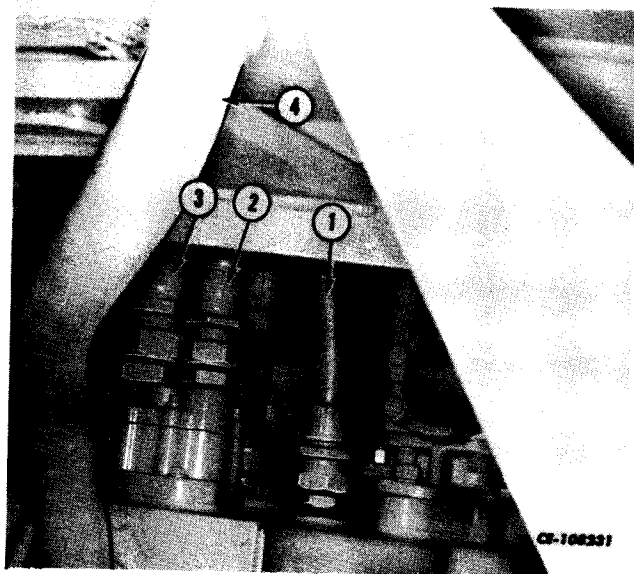
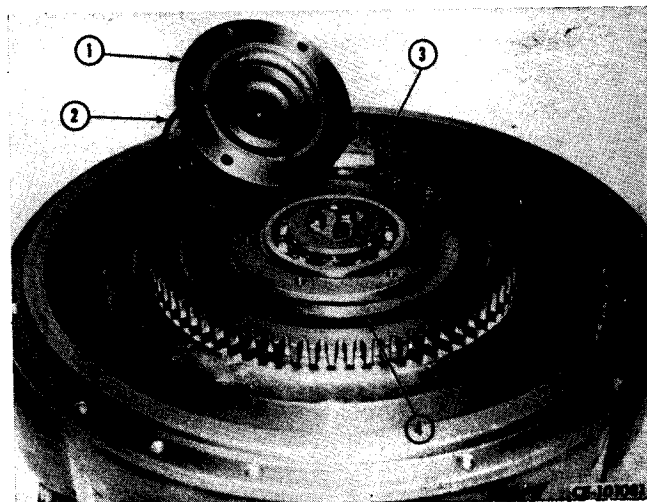

Figure 3-12
Figure 3-17
Disconnect transmission control valve to torque converter line (1, Fig. 3-12).
Remove cap screws and lock washers (3, Fig. 3-17) that secure hub (1) to drive housing (4). Remove hub and shims (2). Tie shims together to facilitate assembly. Old style hub shown in Figures 3-12 and 3-13.